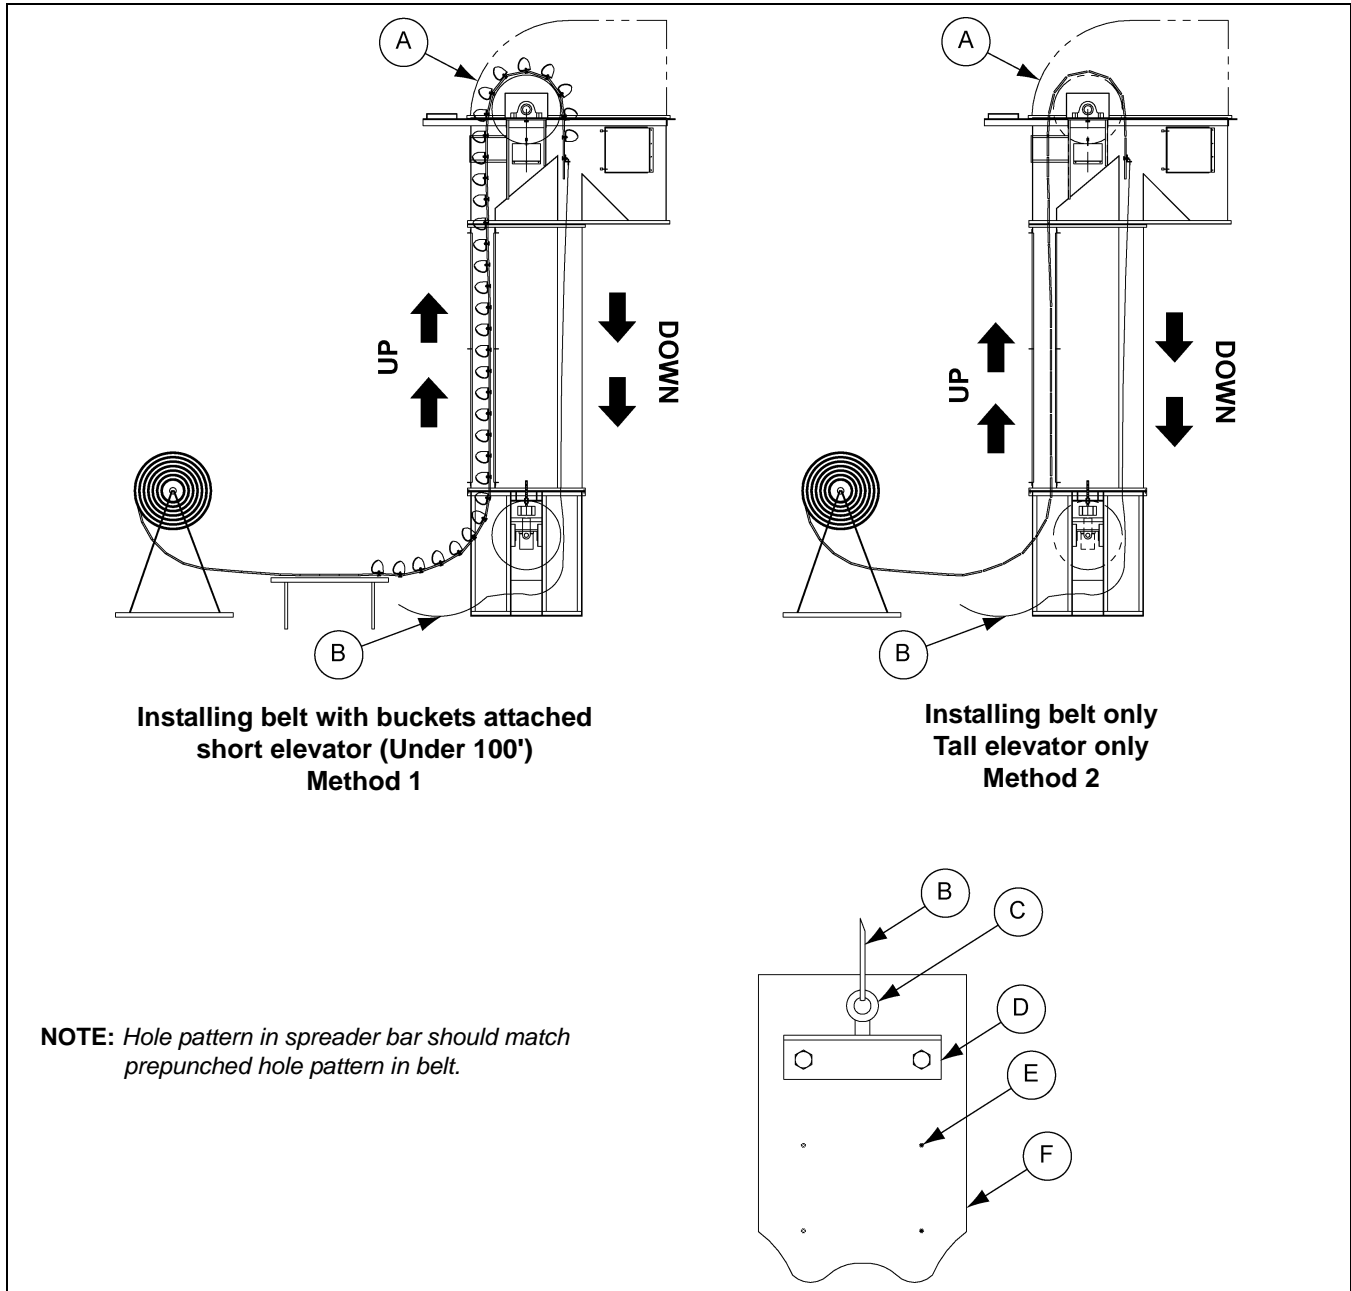
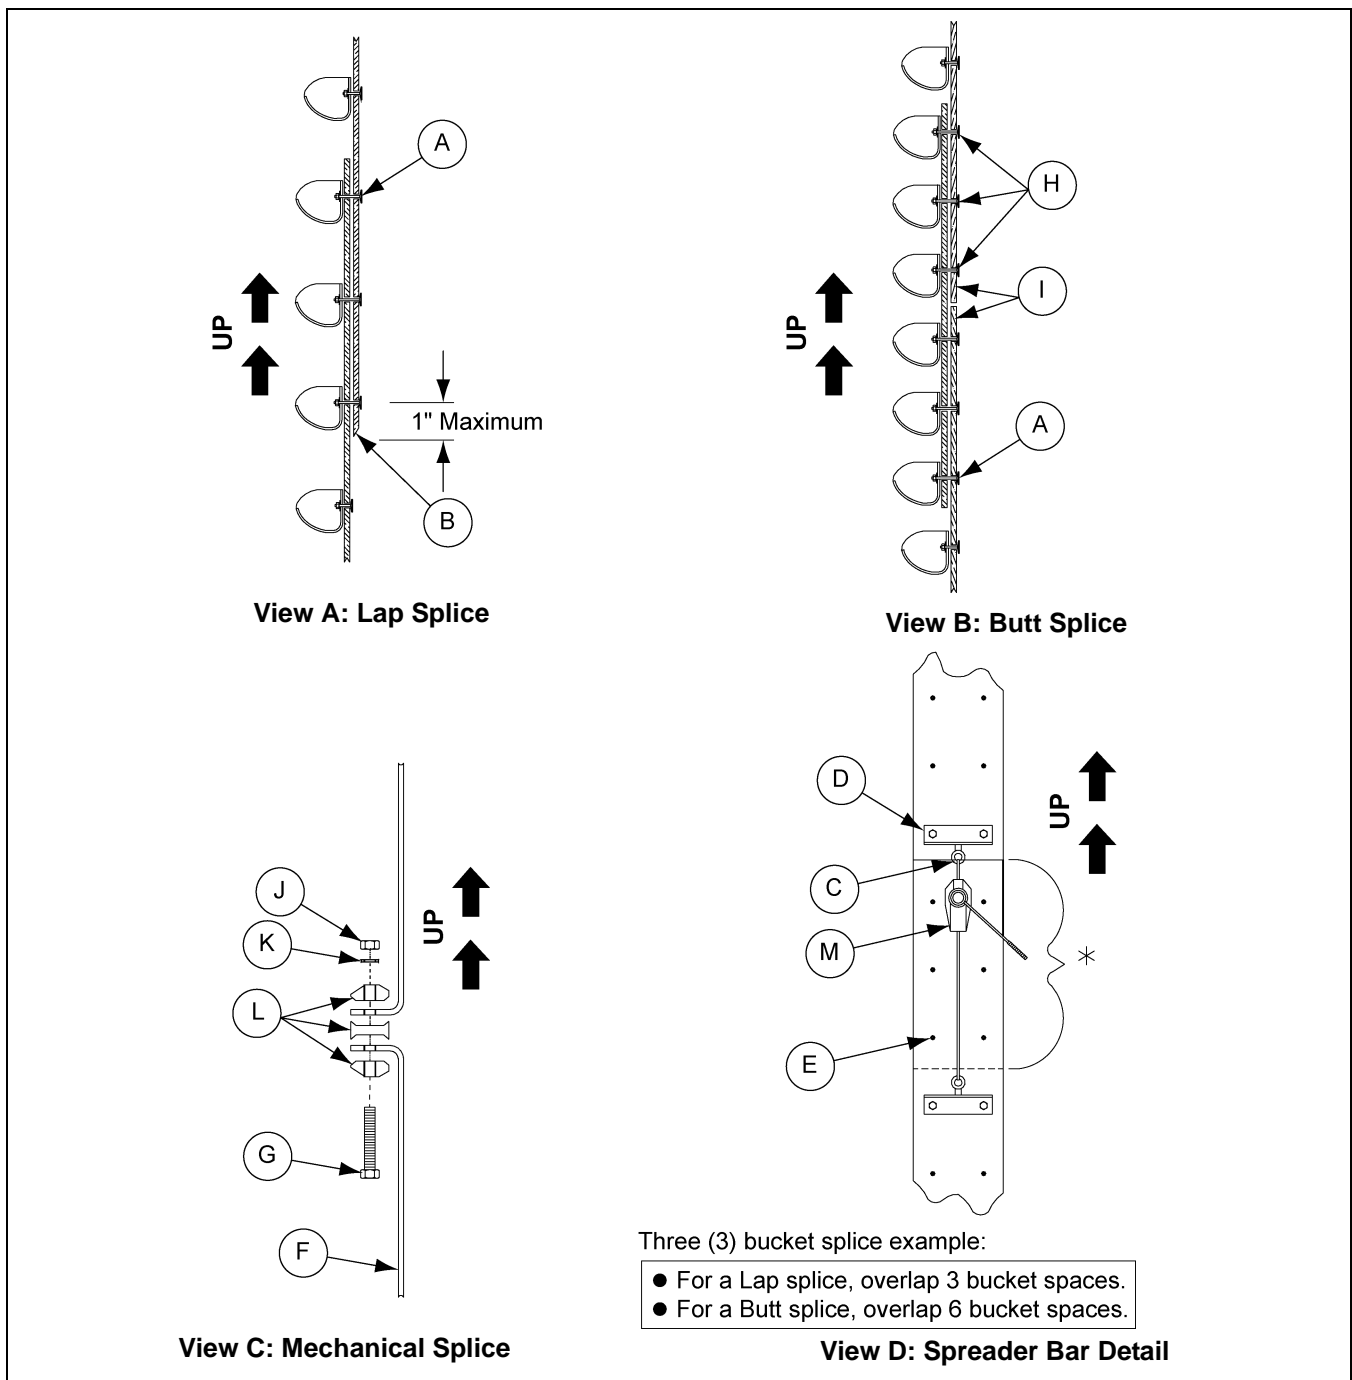

Figure 4M Belt and Bucket Installation
Figure 4Q Belt Splicing Methods
See Figure 4M below and Figure 4Q on Page 33.
3. Rig a heavy haulage line (rope or cable) through the removable panel in the UP-LEG through which the belt with buckets attached will be pulled into the elevator. The line is then hauled up the **UP-LEG**, over the head pulley, and down the **DOWN** elevator leg. Usually, the line can be passed around the boot take-up pulley and out of a cleanout panel to a winch so the belt can be pulled into the elevator. A spreader bar should be fabricated to connect the haulage line to the belt. See View D of Figure 4Q on Page 33. The bar is preferred to simply punching a hole in the belt and tying or clamping the line to the belt.